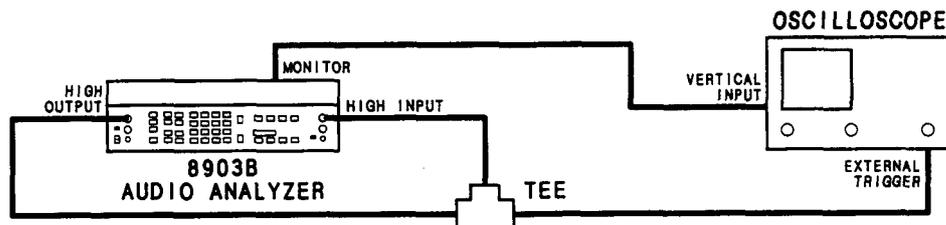

Figure 5-3. Notch Filter Tune and Balance Adjustment Test Setup
2. Connect the equipment as shown in Figure 5-3.